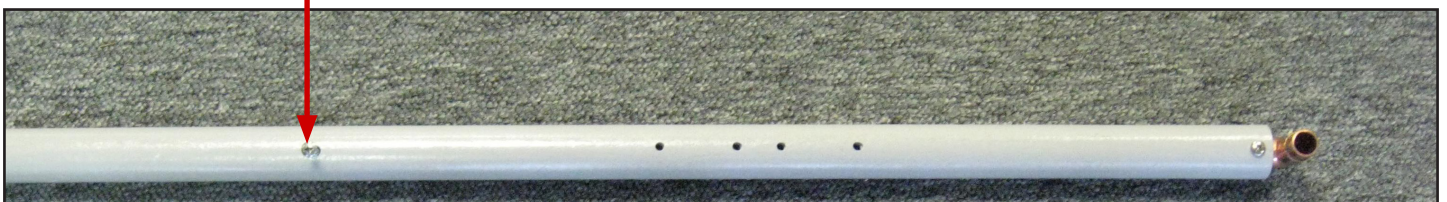

Fig. 11
- Temporarily insert a 10-24 x 1.5" Machine Screw in the hole indicated by the arrow in Fig. 11.
- Insert a 10-24 x 2.0" Machine Screw in the hole indicated in Fig. 13 and loosely fasten (finger tight) using a 10-24 anti-vibration hex nut. Remove the temporary screw that was inserted in the previous step, see Fig. 11.